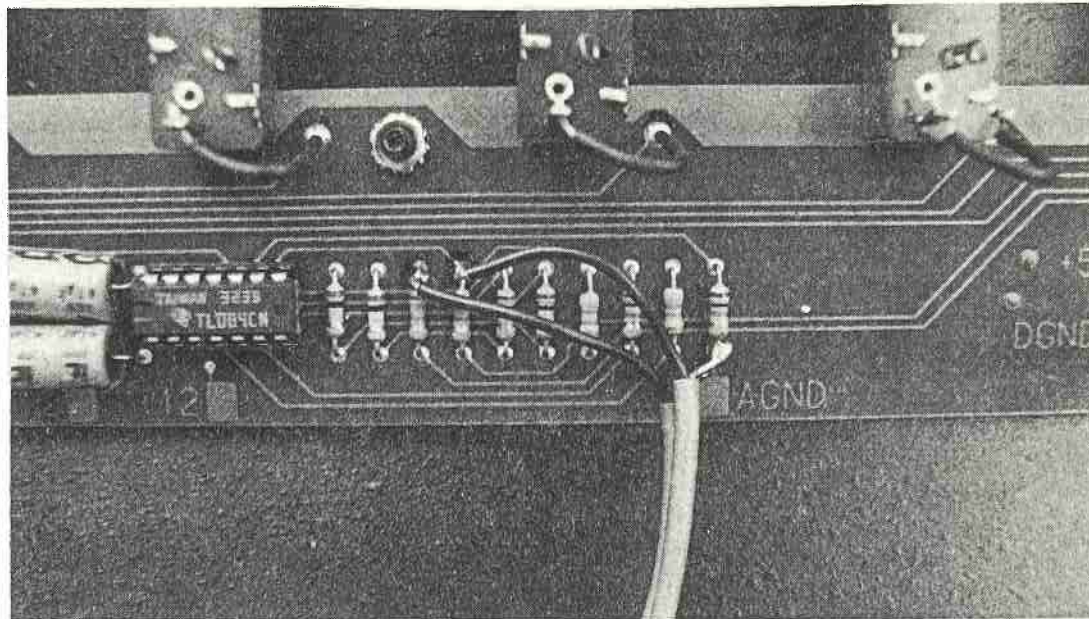

figure 8
- Solder the two copper colored braided shields to AGND (see the photo in **figure 8**). You may solder to the resistor lead as shown, or scrape away the solder mask on the AGND test pad and solder to that.
- Solder the signal wire coming from pin 1 to the upper end of R34 on the DX Switch board, as shown in **figure 8**. R34 is the 27K resistor farthest from the TL084 (U2).
- Solder the signal wire coming from pin 4 to the upper end of R33 on the DX Switch board, as shown in **figure 8**. R33 is the 27K resistor closest to the TL084 (U2).